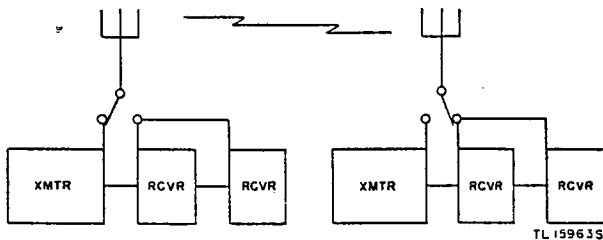

Figure 3. Radio Set SCR-508-(*), simple block diagram.
a. A simple block diagram of a communication system using Radio Set SCR-508-(*) in each of two vehicles is shown in figure 3. Each radio station may transmit on any one of 10 channels and receive on any one of 20 preset channels. Radio Receiver BC-603-(*) may also be tuned manually to any frequency in the range 20 to 27.9 megacycles (mc). Two-way communication may be established between the stations by use of a single channel, or by use of two channels. Hence, each station may operate in the same or several tactical nets and in liaison channels according to the plan of combat operation. The antenna at each station is connected to the two radio receivers during stand-by periods and to the transmitter during transmission. An interphone system using the transmitter audio stages is provided for communication between vehicle members.